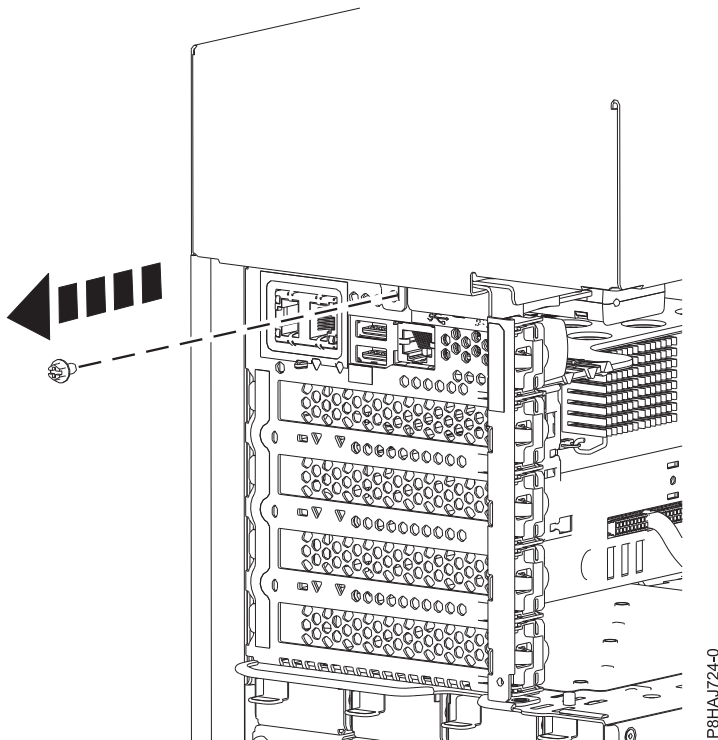

Figure 19. Removing the screw from the 8286-41A side cover
4. Remove the rear screw from the side cover by using a Phillips screwdriver as shown in Figure 19.